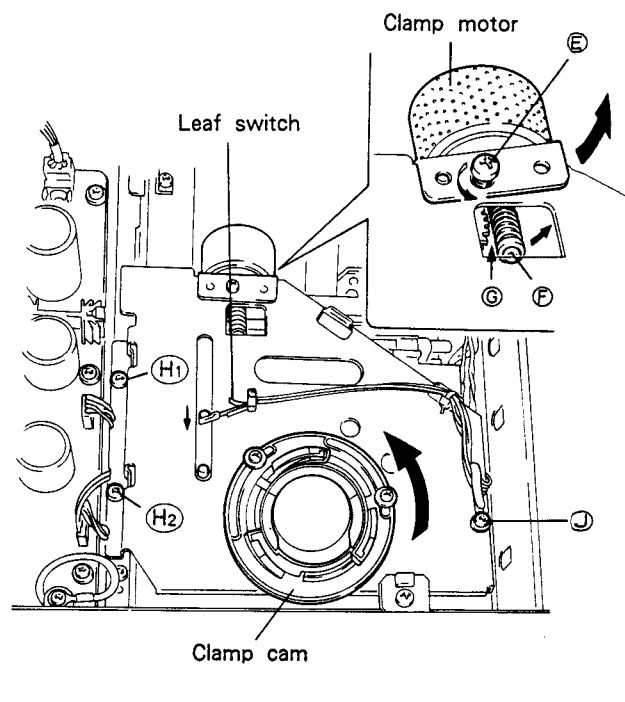

Fig. 2-2.
1. Loosen the screw (E) fixing the clamp motor.
2. Taking care not to drop the iron ball of the tip of the gear section of the clamp motor as shown in Fig. 2-2, keep the engaging section (G) of gear apart from the unit by tilting the clamp motor in the direction of arrow.
4. Mount the clamp motor again. (Drive the screw (E).)
2. Remove by turning over the clamp mechanism assembly. (Screws  $H_1$ ,  $H_2$  and  $J$ , Refer to Fig. 2-2.)